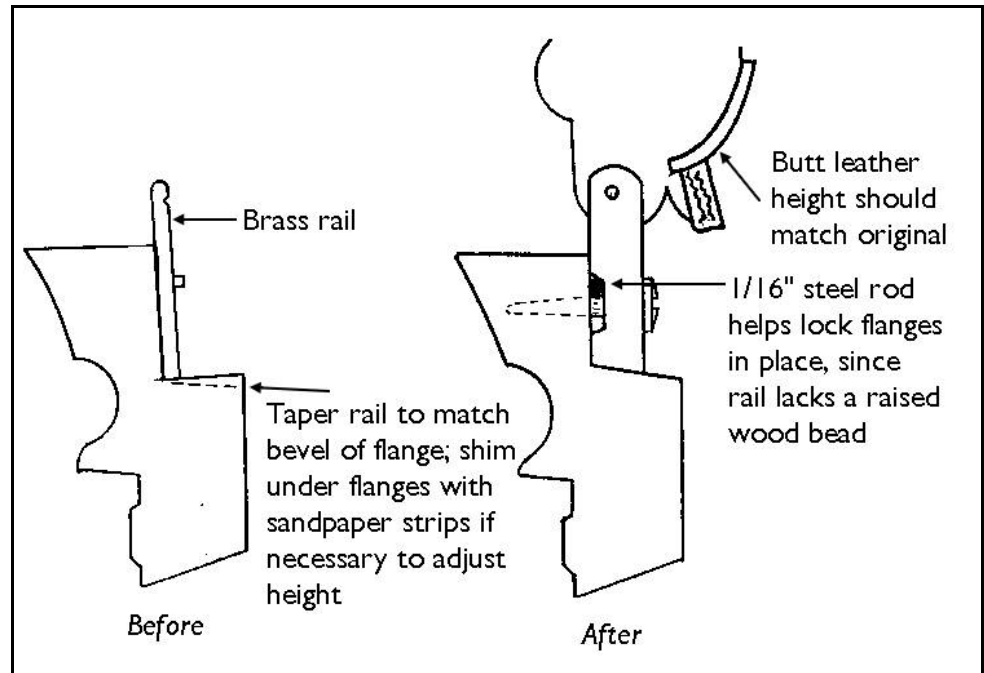

Figure 1: Typical conversion of brass rail to wood flanges
► **Replacing brass rail hammer butts:** Replacement brass rail butts by Tokiwa available, but may not match the originals exactly. The biggest problem with brass rails is weakening and breakage with age. If the rail shows any signs of breakage, I suggest converting over to new wood flange Renner or Tokiwa butts. This is usually fairly simple, involving slight trimming of the rail and drilling for flange screws. The brass rail can be used as a drilling template. A single note can be converted for a test. Figure 1 shows a typical conversion.